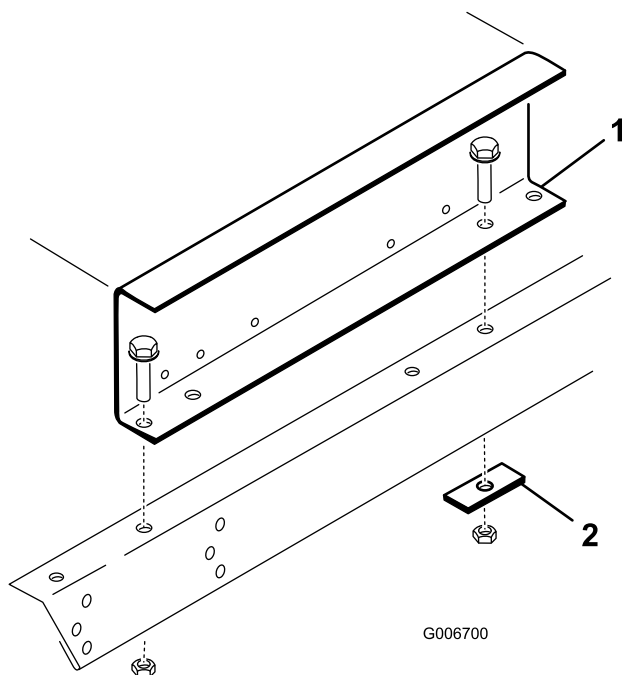

Figure 10
3. Position lift onto frame aligning mounting holes with holes in frame (Figure 10).
4. Mount each side of lift to frame channels with a reinforcing plate and (2) 3/8-16 x 1 inch large flange head capscrews and flange nuts (Figure 10). Reinforcing plates to be used in rear mounting holes only.